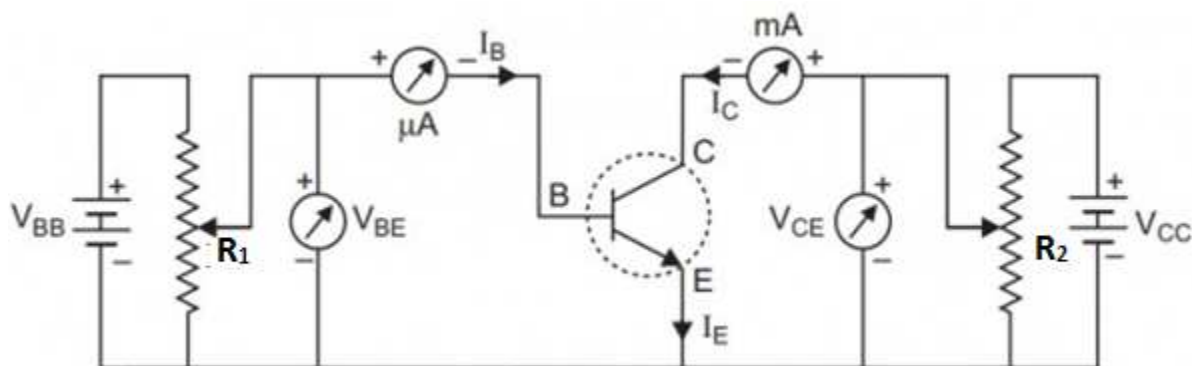

Figure 2
Two N regions have mobile electrons (negative) as majority and hole as minority, while in middle section p region have mobile holes (positive) in majority and electrons as minority. As shown in figure 2, the N-P junction (emitter base junction) is made small forward bias and P-N junction (base collector junction) is made reverse bias. Under the forward bias the electrons in emitter move toward base, while holes move toward base o emitter. Since base is thin, most of electrons pass on collector and few of them combine with hole constitute base current from base to emitter. Electrons reaching collector is attracted by positive voltage given to collector and thus constituting collector current. There are following two characteristics of NPN transistor in common emitter configuration.
29. Make connection as shown in figure 2.